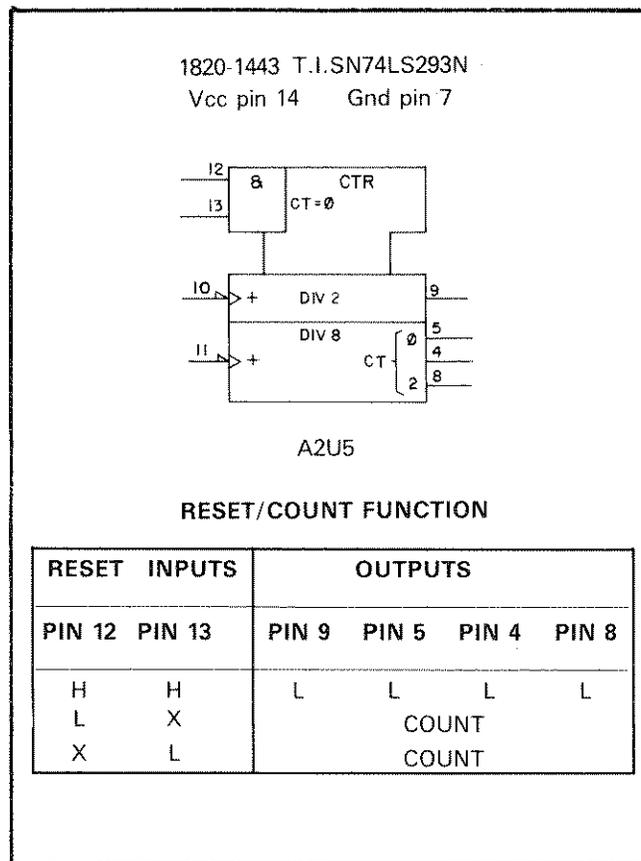

Figure B-19. Binary Counter
**Binary Counter.** Figure B-19 shows a four-bit binary counter consisting of a divide-by-two section and a divide-by-eight section. When both inputs to the control block are active, the content of both sections equals zero. If the output of the divide-by-two section is connected to the input of the divide-by-eight section, the device operates as a divide-by-16 counter.